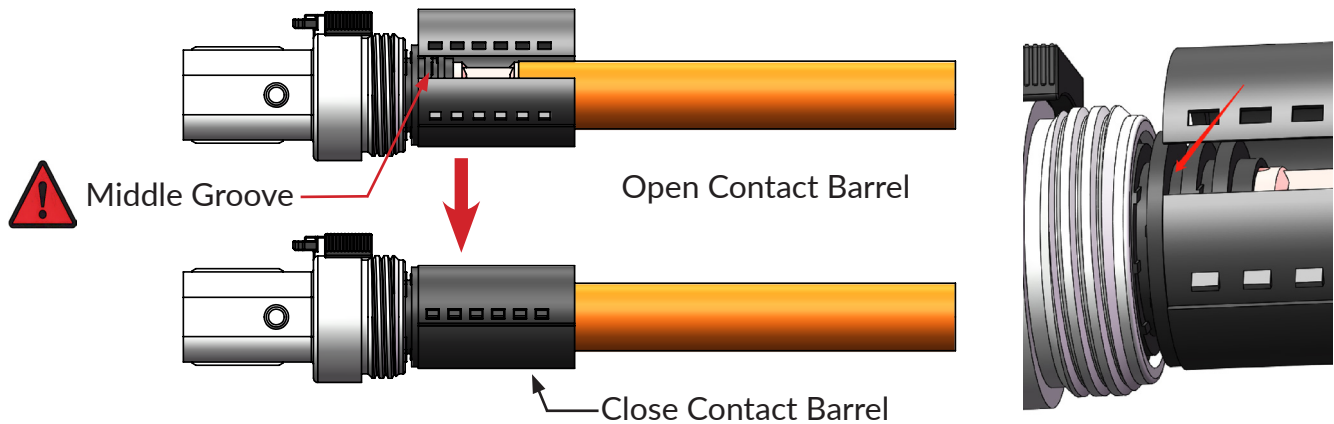

Figure 14
1) As figure 14 shown, assemble the contact barrel into middle groove of the elbow insert, can't be assembled to other groove, otherwise withstanding voltage of the connector will be affected;